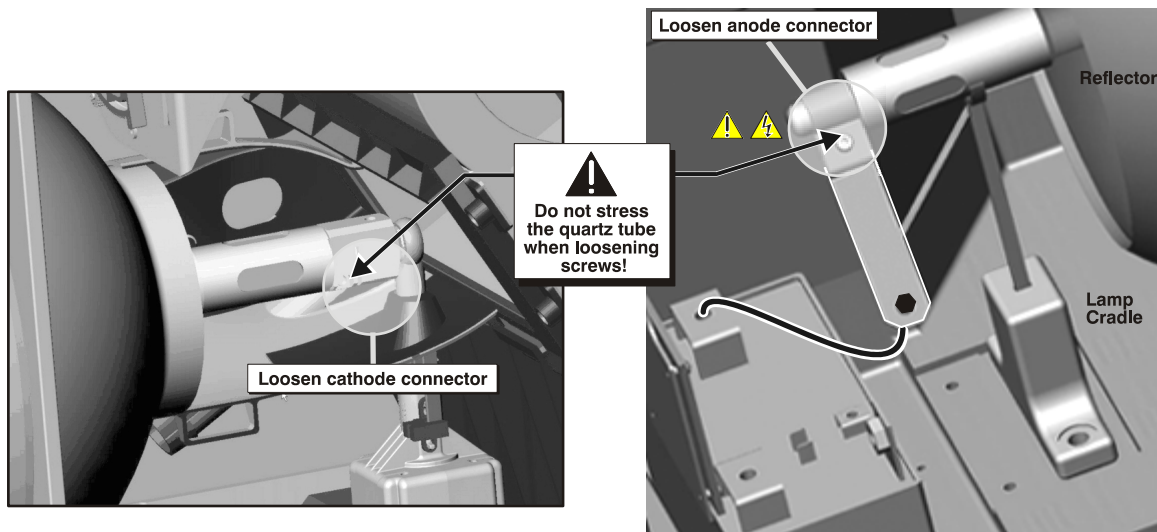

Figure 4-1 Loosen Cathode (-) and Anode (+) Connectors to Remove Bulb
- b. Loosen set screws from negative/cathode (rear, 7/64”) and positive/anode (front, 3/16”) lamp connectors. Make sure to apply minimal torque and DO NOT STRESS the quartz tube. (Figure 4-1).